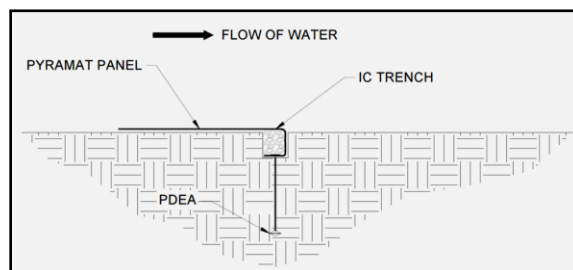

Figure 16: Initial Channel (IC) Trench Complete
5. Fold the Pyramat panel over the top of the compacted IC trench (Figure 16) and place each panel end into the respective COS trenches.